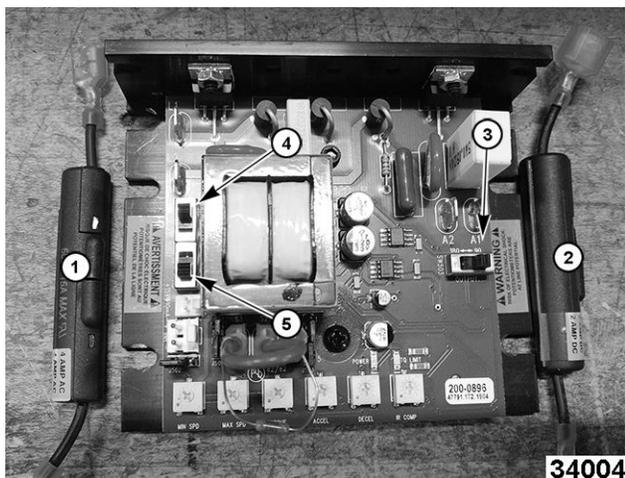

Fig. 65
**2ND GENERATION CONTROLLER BOARD SHOWN IN Fig. 65**
- Fuse - 1, Fig. 65, 4 amp AC.
- Fuse - 2, Fig. 65, 2 amp DC.
- 3 switch shown in Fig. 65 should be set at 90.